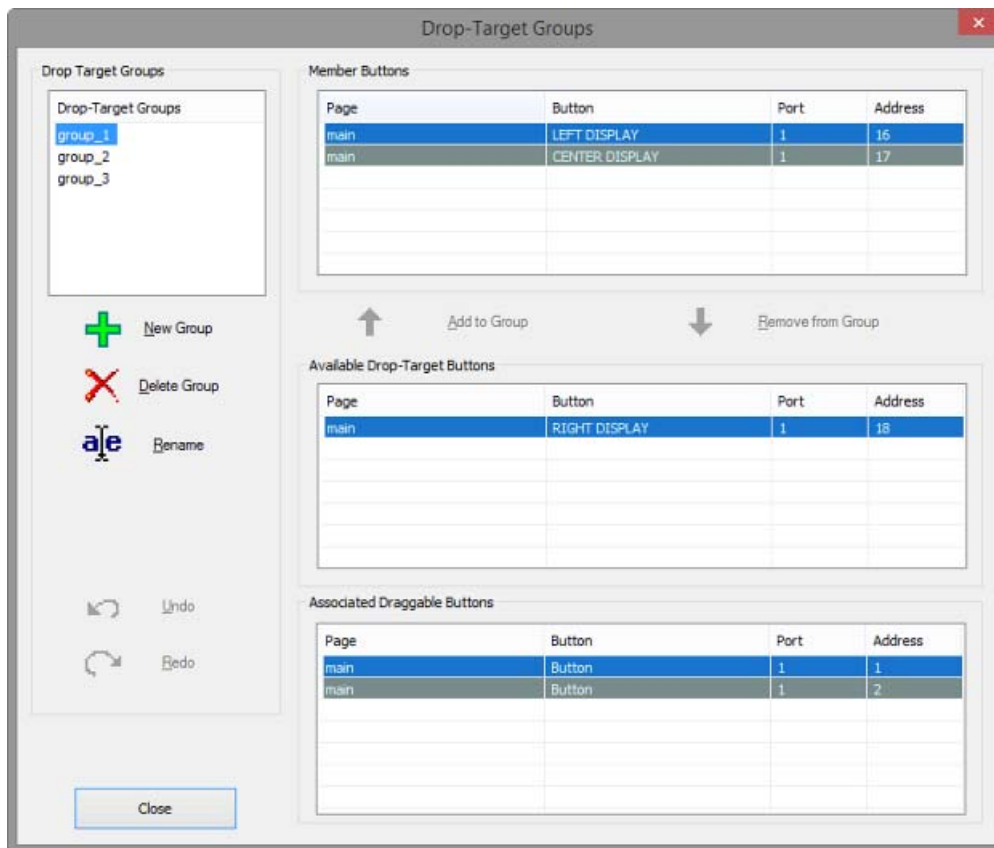

FIG. 220 Drop-Target Groups dialog
1. Select **Panel > Edit Drop-Target Groups** (or click the toolbar button) to open the *Drop-Target Groups* dialog (FIG. 220):